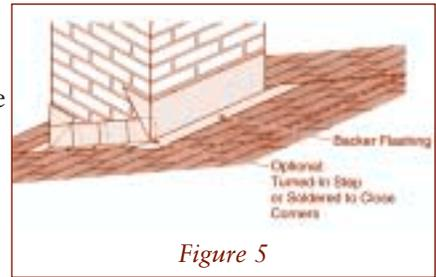

Figure 5
- **Topside flashing** - is commonly called the backer or header flashing. (See figure 5)